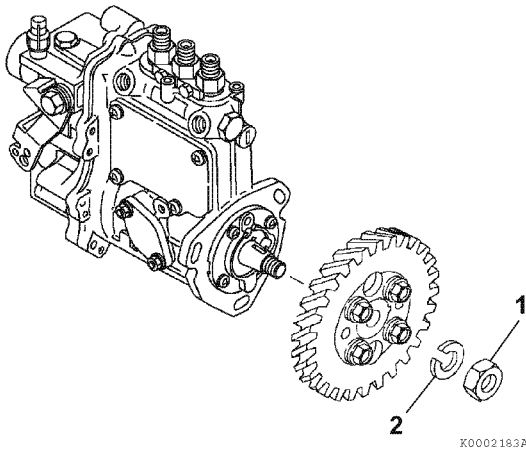

Figure 7-23
5. Reinstall the fuel injection pump drive gear lock washer (**Figure 7-23, (2)**) and nut (**Figure 7-23, (1)**). Do not lubricate threads of the nut or shaft. Hold the crankshaft pulley bolt with a socket wrench and tighten the drive gear nut to the specified torque. *See Special Torque Chart on page 7-8.*